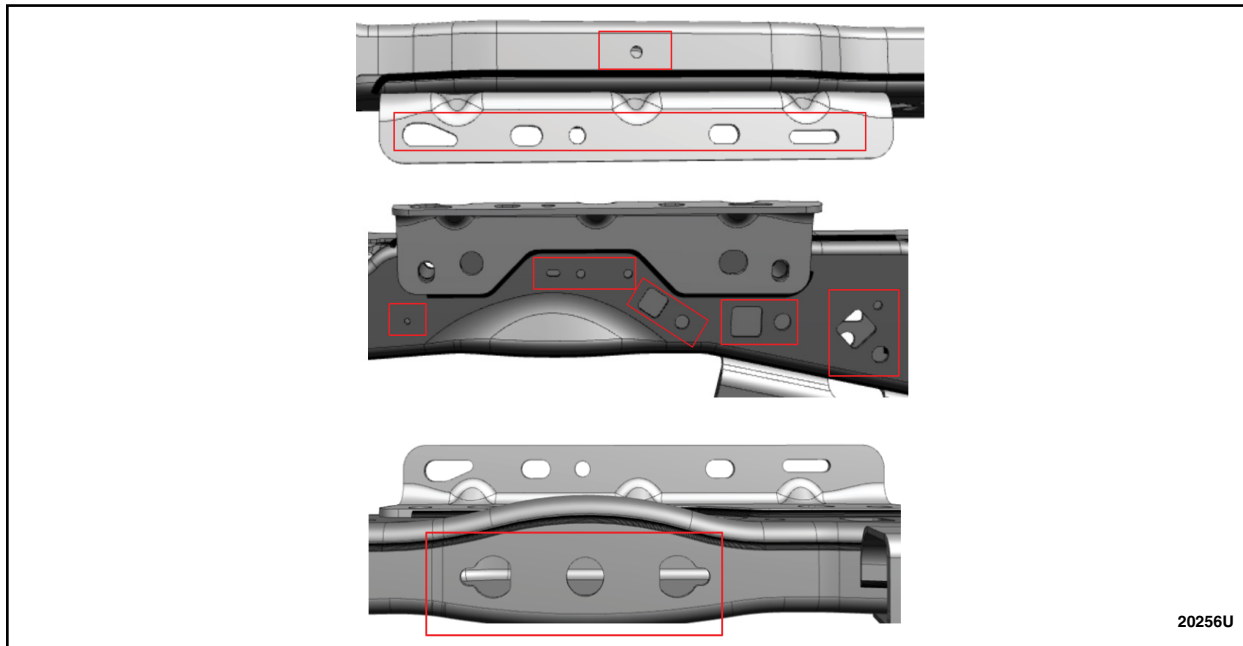

FIGURE 28
39. Verify that all mounting surfaces and clip holes are clear of spatter and wax overspray. See Figure 28.